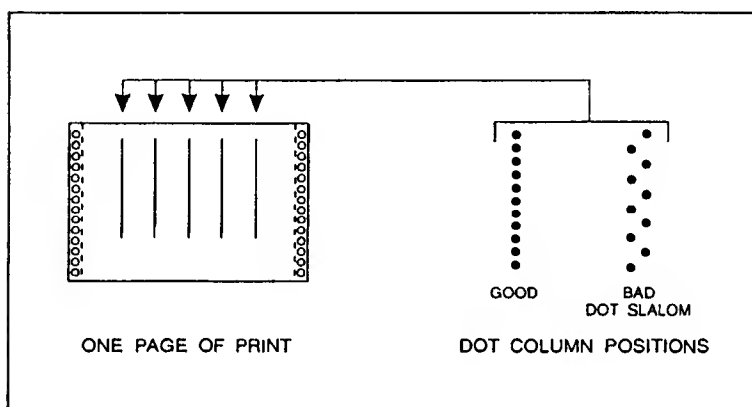

Figure 5-8. Single Bar Subtest-Flight Time Adjustment Printout
To determine if the flight time is adjusted correctly, observe the dot pattern produced by diagnostic subtest single bar (see Figure 5-8, below). The vertical lines of this test should have the dots placed directly beneath each other. Any sawtooth effect indicates the flight time is out of adjustment.
- c. Check the results of the adjustment on the first page of the automatic printouts. You may also check the adjustment by performing Single Bar Test; refer to Section 4-4, Selectable Diagnostic Subtests) and observe the vertical lines of the test printout for any slalom effect (see Figure 5-8). If the slalom effect is still evident, return to step "b" and increase the parameter; or, if the slalom effect appears to have increased, try varying the parameter in the opposite direction. The current value is printed in the lower right corner of the automatic alignment printouts first page.